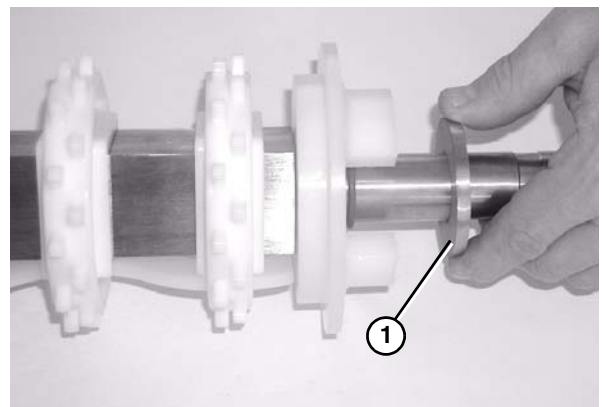

Figure 79
6. Install washer (**Figure 79, item 1**) onto spindle shaft.